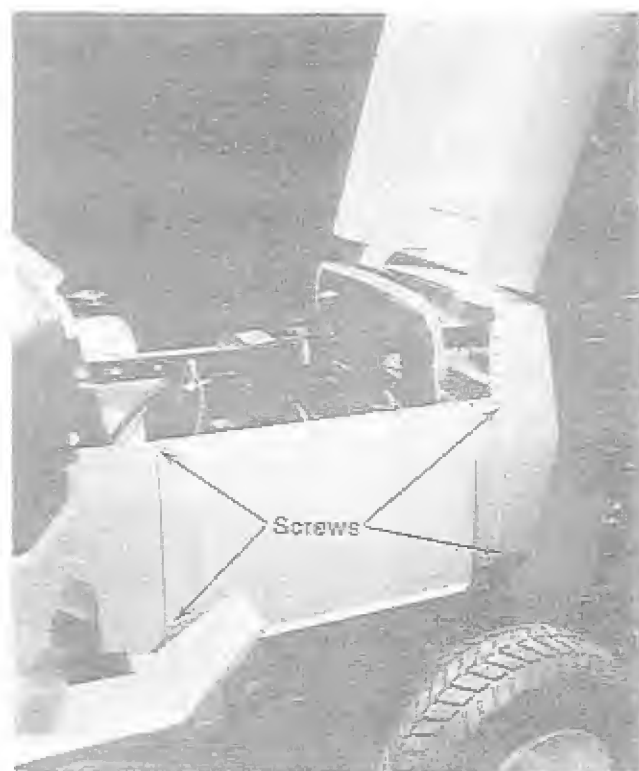

FIGURE 23.
**Side Panels**—The right and left side panels can be removed for maintenance or attaching accessories. To remove, turn the four screws in the corners a 1/4 turn to the left and remove. See figure 23.